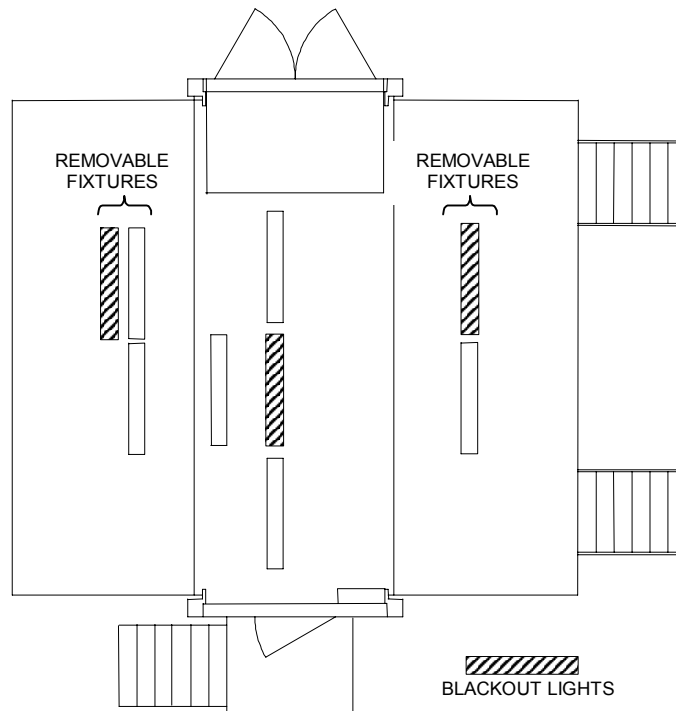

Figure 14. Ceiling Light Fixture Layout.
1. Unpack the removable light fixtures from their storage box and position them as shown in Figure 14. Install the lights by slipping the hooked brackets at the ends of the fixtures between